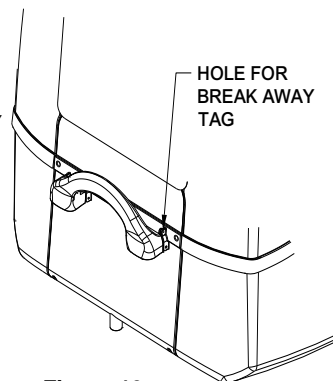

Figure 13
- B. Place easy Break Away Tag through hole provide on right side of handle. (Ref Figure 13)
2. Visually inspect easy Break Security Tag is intact (Ref Figure 13).